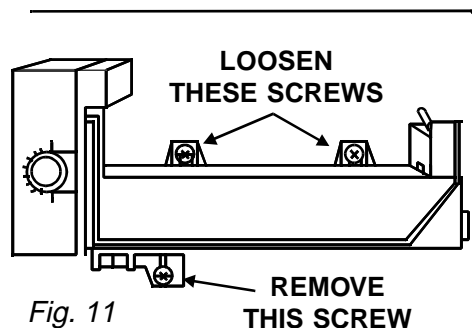

Fig. 11
2. Loosen the two (2) screws in the slotted brackets at the top of the automatic ice maker three or four turns. (These screws must be removed if the evaporator cover is to be removed.) (Fig. 11)